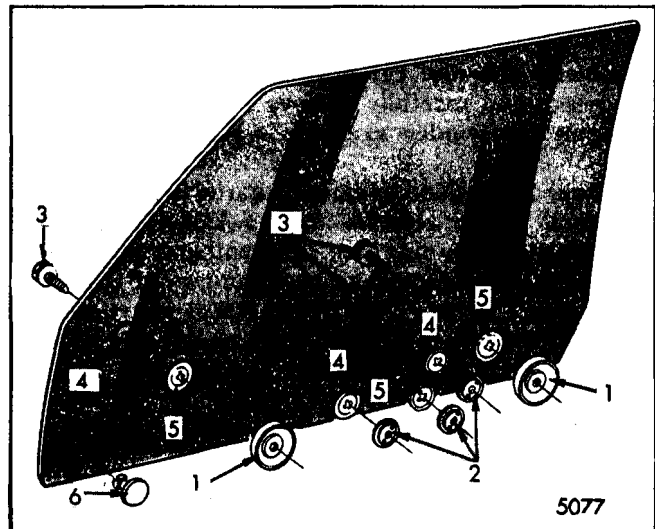
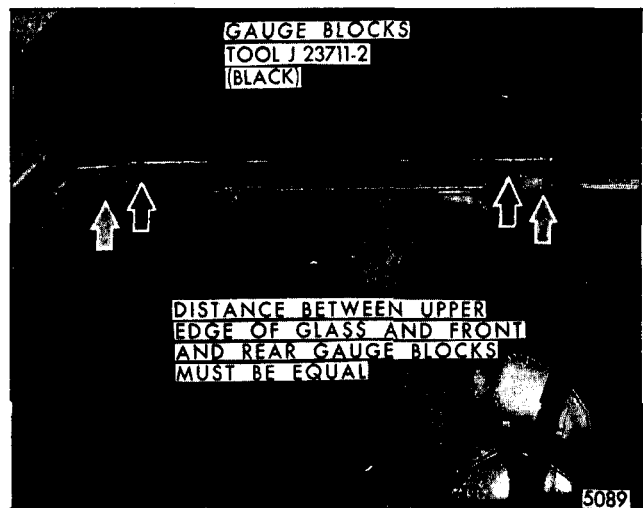

Fig. 6-77-Front Door Window Assembly - "B, C and E" Two-Door Hardtop and Convertible Styles
Figure 6-81 - Front Door Window Alignment (Rotated "Cocked" Glass in Body Opening Adjustment)
Figure 6-77 is an exploded view of the window assembly and identifies the various components and their assembly sequence.
5. With glass in partially-down position loosen rear stationary up-travel stop on glass ("1", Figure 6-77). Then, raise door window assembly to approximately 1" from the full-up position, as illustrated in Figure 6-81. If distance (space) between the upper edge of glass and the front and rear gauge blocks is equal (as shown in Figure
9. Lower window and remove gauge blocks from weatherstrip retainer. Then, tighten rear stationary up-travel stop on glass ("1", Figure 6-77) and reinstall and seal weatherstrip as previously described.